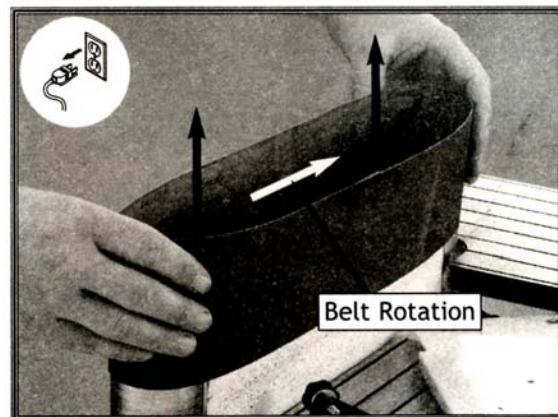

Figure 22. Removing sanding belt.
5. Remove sanding belt as shown in Figure 22.
6. Install a new belt with the arrows in the proper direction (Figure 22 white arrow), tension it, and replace the belt guard.